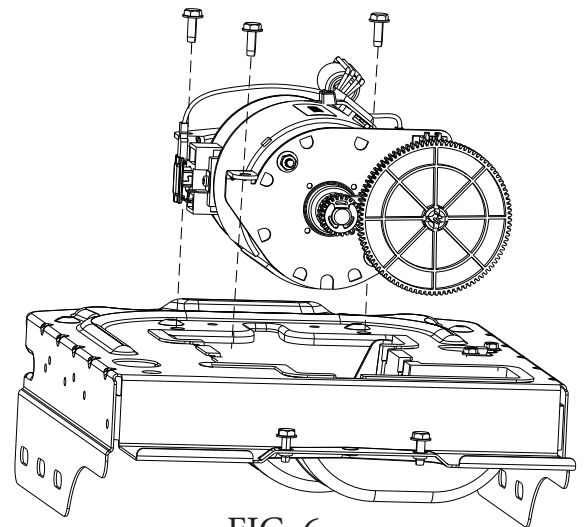

FIG. 6.
12. Remove three motor mounting bolts from motor frame FIG. 6. Remove motor assembly.